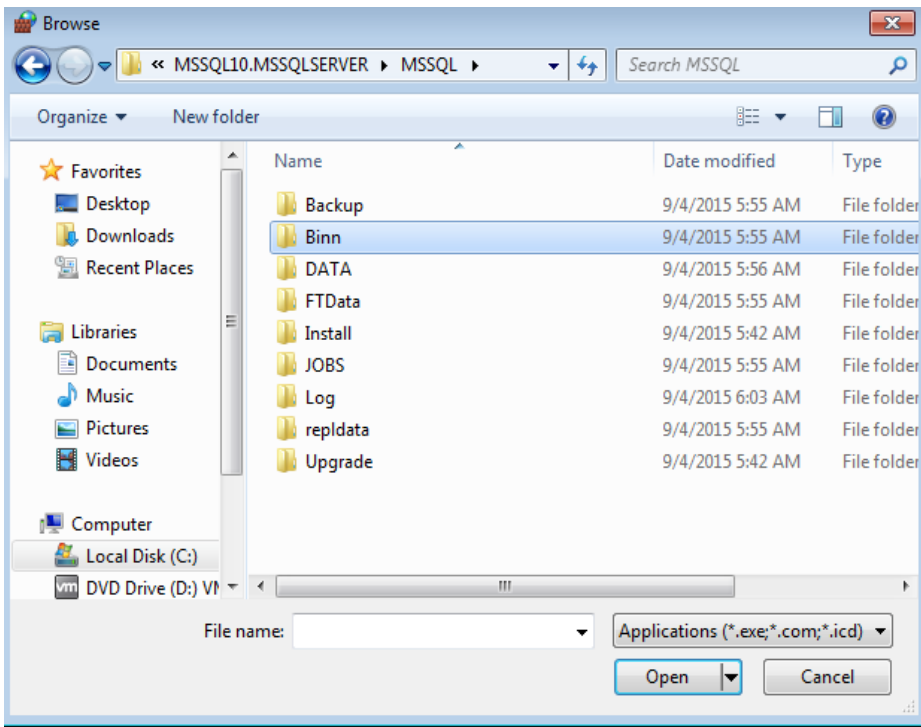

Fig.1.23 Browse
(10) Open Binn folder (see Fig.1.23).